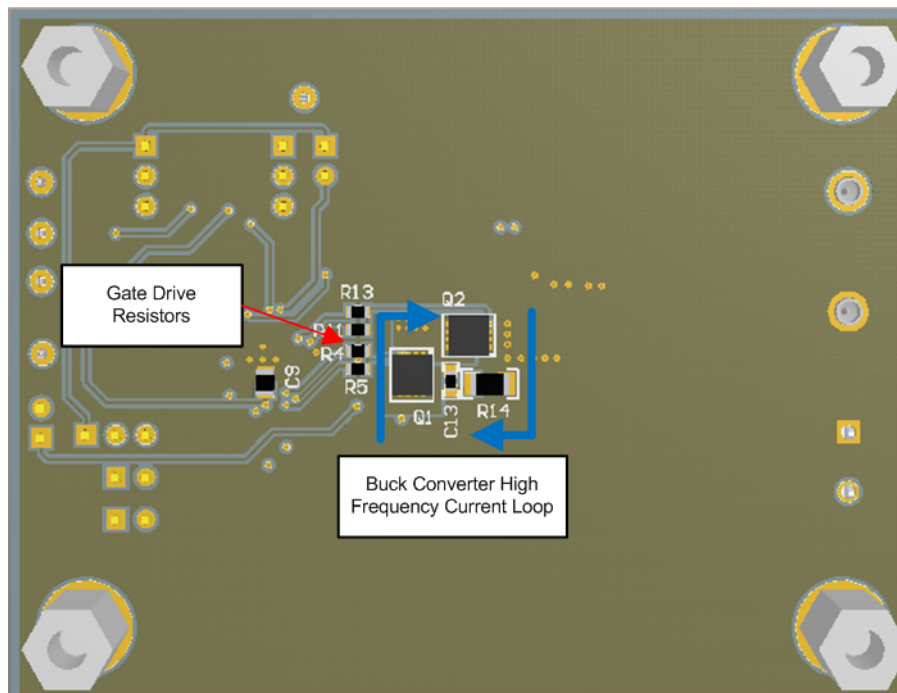
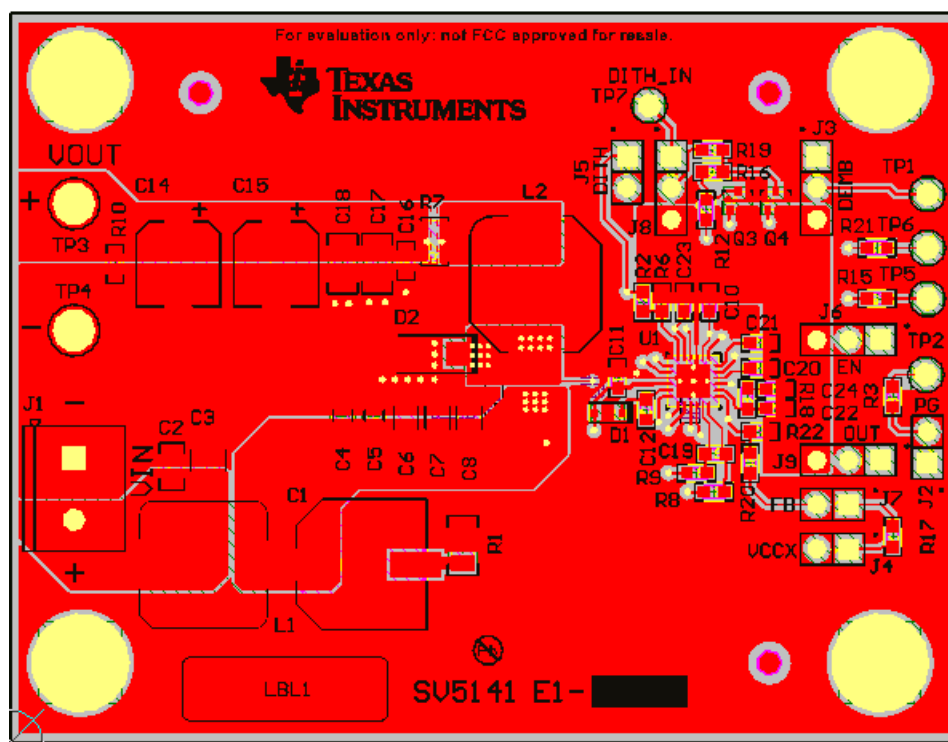

Figure 39. EVM Bottom Layer, High Frequency Current Loop
Figure 41. EVM Top Layer
- Figure 39 shows the high frequency loops of the synchronous buck converter. The high frequency current flows through Q1 and Q2, through the power ground plane and back to V_{IN} through the ceramic capacitors C6, C7, and C8. This loop must be as small as possible to minimize EMI. Refer to Figure 41 and Figure 42 for the recommended PCB layout.
Figure 41 and Figure 42 show the top and bottom layer of the LM5141-Q1 EVM.